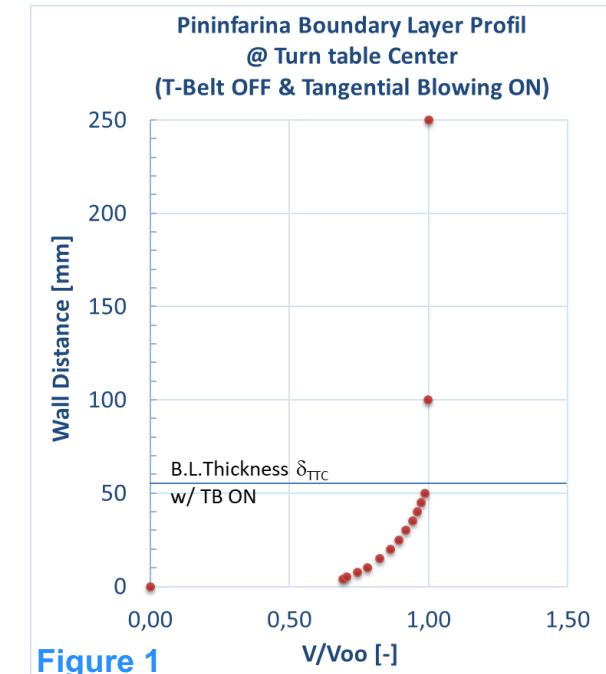

Figure 1
- The boundary layer (BL) profile measured at the center of the turn table using a hot wire anemometer for T-Belt OFF and scoop & tangential blowing ON conditions is shown in Figure 1.